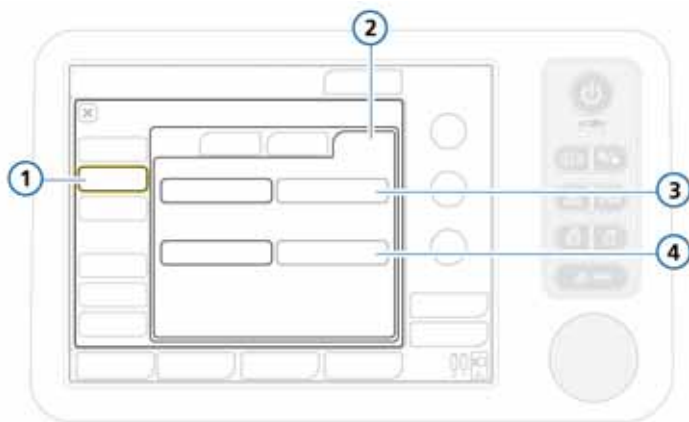

Figure G-5. Setting breath timing and labeling options
- In the Modes window, select either **I:E** (the default) or **TI** for the desired timing option. See Figure G-5.